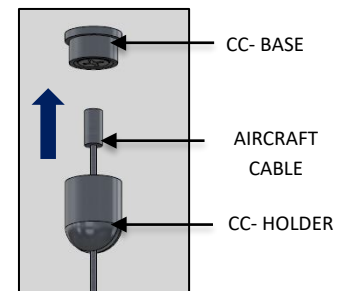

FIG. 11 – AIRCRAFT CABLE INSTALLATION
7. Locate the AIRCRAFT CABLES from the mounting kit. Only three (3) will be used in this step.
8. Feed the AIRCRAFT CABLES through the three (3) CC-HOLDER. Once the AIRCRAFT CABLE is fed thru the CC-HOLDER, secure to the CC-BASE (mounted) at the three (3) non powered mounting locations as shown in FIG. 11.